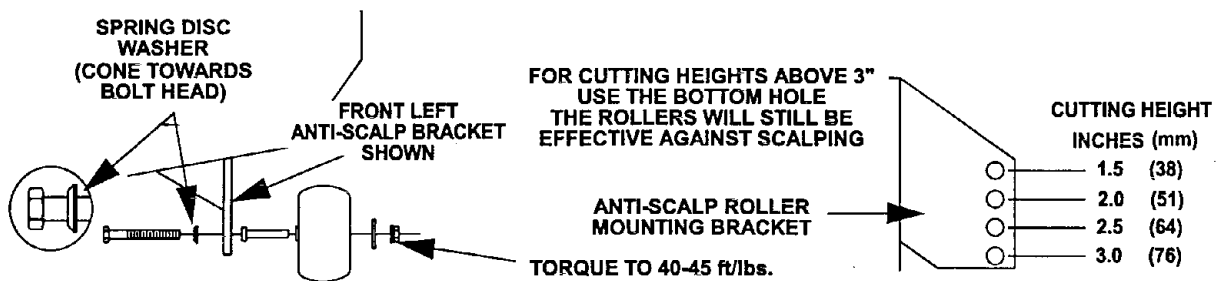

FIG. 6
- g) Adjust anti-scalp rollers for maximum deck flotation. Stop engine and remove key. Place rollers in one of the positions shown in Fig. 6. Rollers should maintain 1/4 in. (6.4 mm) clearance to ground. **Do Not** adjust rollers to support the deck. Be sure *bolt is tightened properly* or loss of anti-scalp roller may result.